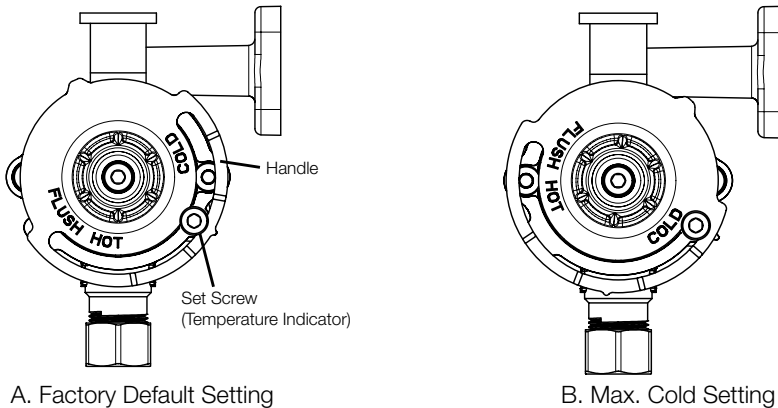

Figure 5. Temperature Adjustment, Models 131-FMAB(RCF), 131-CFMAB(RCF)
1. Loosen the Set Screw (see Figure 5) until the Handle turns freely (do not remove the screw) with a 3mm (7/64") hex wrench.
6. **RETURN HANDLE TO SAFE TEMPERATURE SETTING:** Turn the Handle clockwise to exit Pipe Flush Mode. Safety Lock will re-engage. Continue rotating the Handle clockwise to desired water temperature setting (see Figure 5 for standard settings).